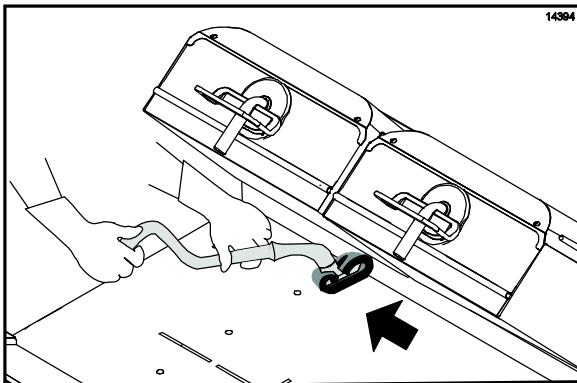

Figure 87
24. Scrub the back side of the platens from the right platen to the left platen. (See Figure 87.)